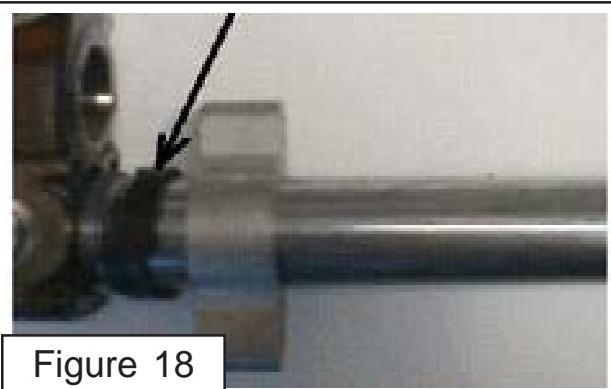

Figure 18
9. Interference will occur between the Flange/Sleeve Assembly and the casting of the Inlet Section on the Valve Section next to the Inlet Section. To compensate, the provided shims should be placed on the Flange/Sleeve Assembly under the flange (See Figure 18)